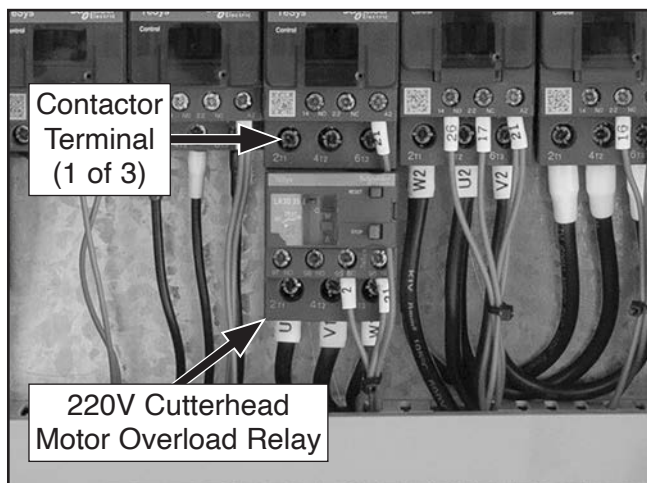

Figure 11. Location of cutterhead motor overload relay (220V).
8. Disconnect wires from 220V cutterhead motor overload relay, then loosen bottom three contactor terminals and remove overload relay (see **Figure 11**).